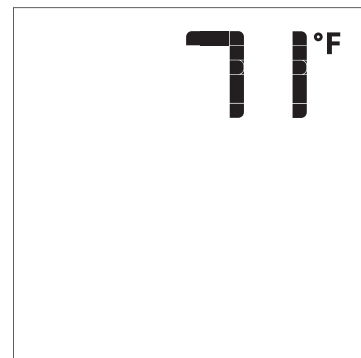

Figure 79
4. With the system ON, press the ON/OFF Key on the Transmitter. The Transmitter LCD display will show the room temperature. **See Figure 79.** At the same time the Receiver will turn off the appliance.